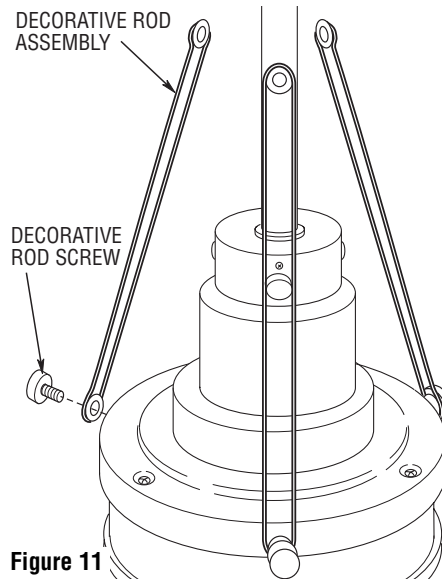

Figure 11
- 12. Using the decorative rod screws (supplied), attach the three decorative rod assemblies to the motor housing (Figure 11). The decorative rods must be oriented so that they lean in towards the downrod. Do not tighten the rod screws at this time.